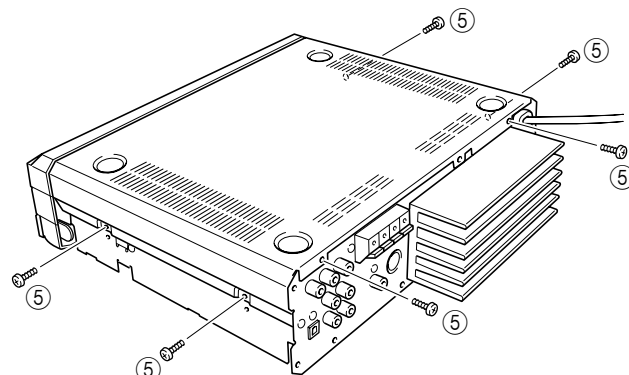

Fig. 3
- a. Remove 6 screws (⑤). (Fig. 3)